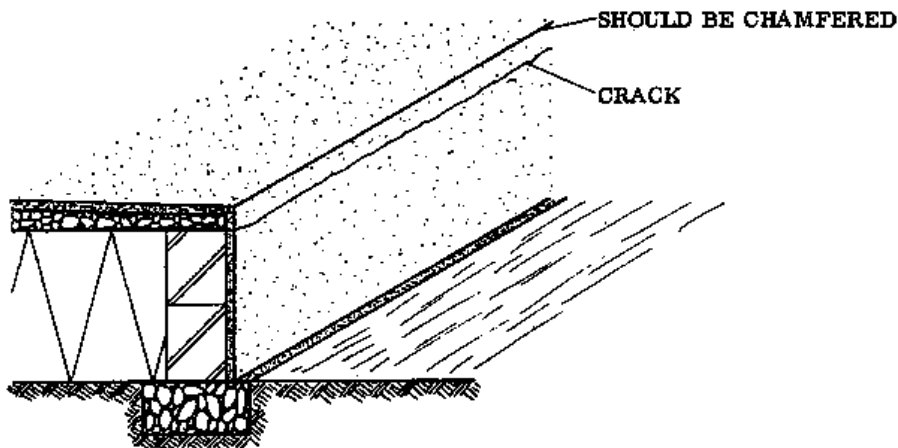

Fig. 2
- **PROJECTING OUTSIDE EDGE:** If the outside edge of a verandah floor is kept flush with the render of the footing (Fig. 2), then cracks would soon appear along the edge. This is prevented by constructing the floor so it projects past the footing by no more than 7,5 cm. The shorter the projection the better, because the floor is not reinforced.